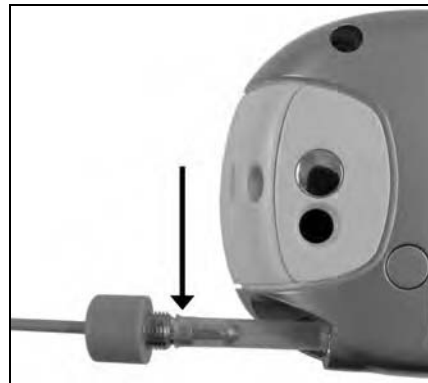

Figure 7-4.
1. Ensure antenna straw is attached to collar seat. See Figure 7-4.